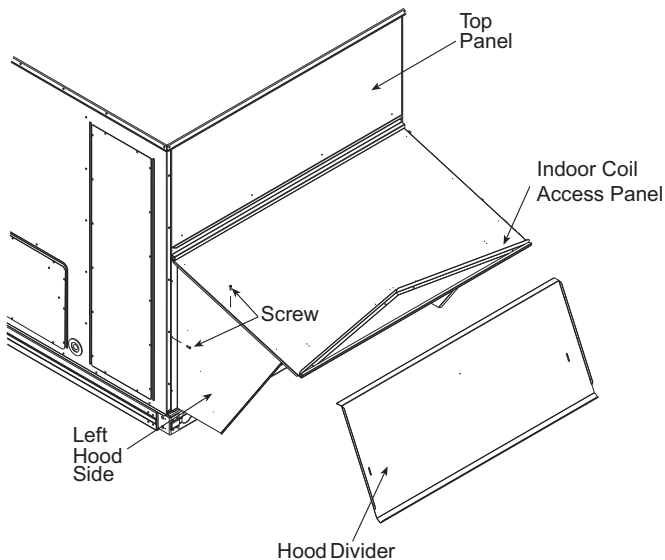

Fig. 17 — Economizer Hood Construction
2. Swing out indoor coil access panel and insert the hood sides under the panel (hood top). Be careful not to lift the panel too far as it might fall out. Use the screws provided to attach the hood sides to the hood top and to attach the hood sides to the unit. See Fig. 17.
4. Insert the hood divider between the hood sides. See Fig. 17 and 18 for construction and installation. Secure hood divider with 3 screws on each hood side. The hood divider is also used as the bottom filter rack for the aluminum filter.